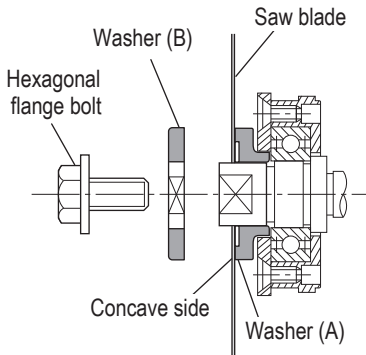

Fig. 16
- For mounting saw blade, the concave side of washer (A) must be fitted to the saw blade side. (See Fig. 16)